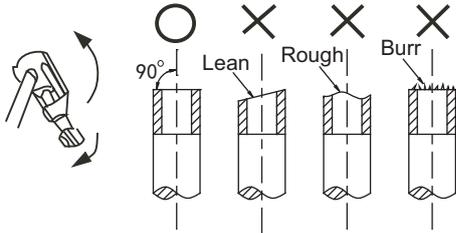

Fig.5-1
- 1) Cut the pipe with a knife.(See Fig.5-1)